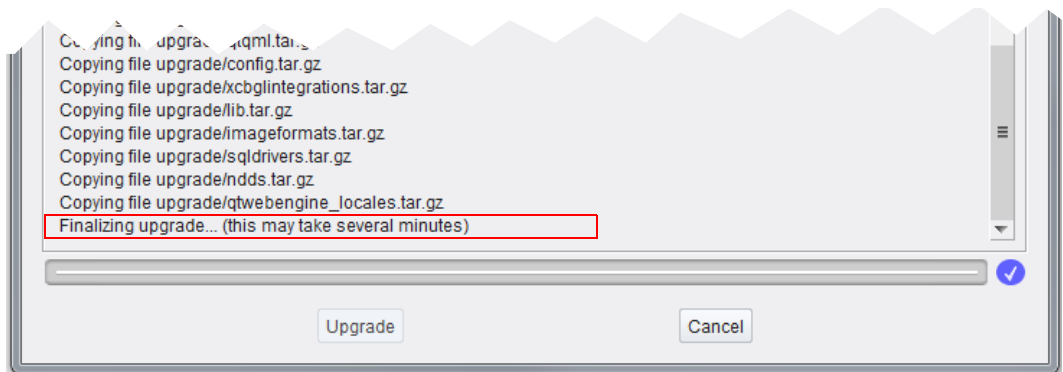

Figure 110 Software Upgrade Finalizing (Wait)
- 12. When all data has been transferred to the unit, the upgrade process enters a "Finalizing" stage. See Figure 110.